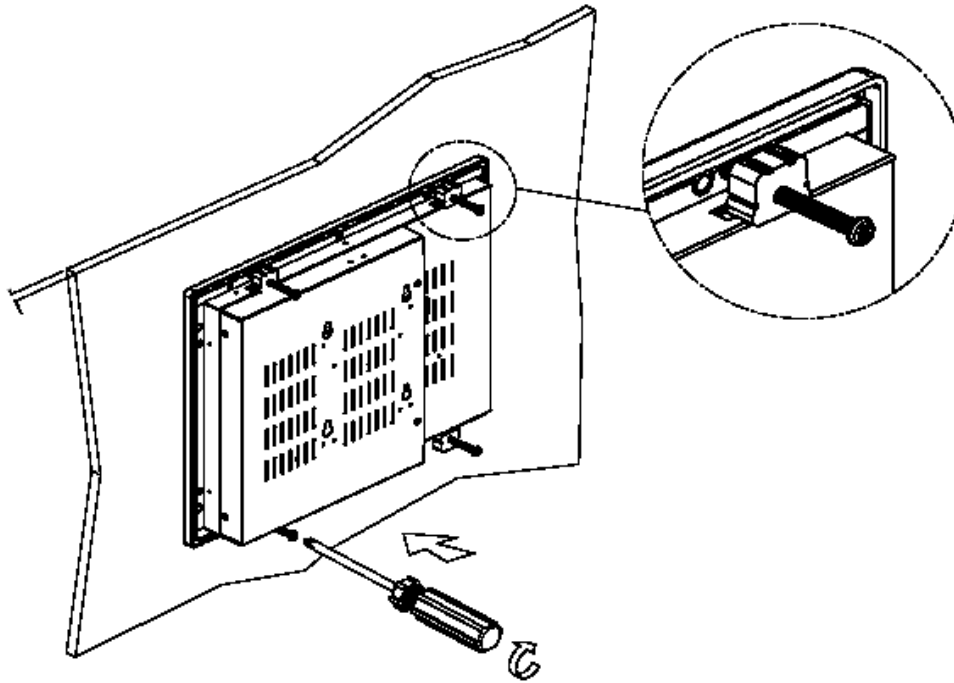

Figure 5-8: Panel Mounting Clamp Position
Step 5: Tighten the screws that pass through the panel mounting clamps until the plastic caps at the front of all the screws are firmly secured to the panel (**Figure 5-8**).